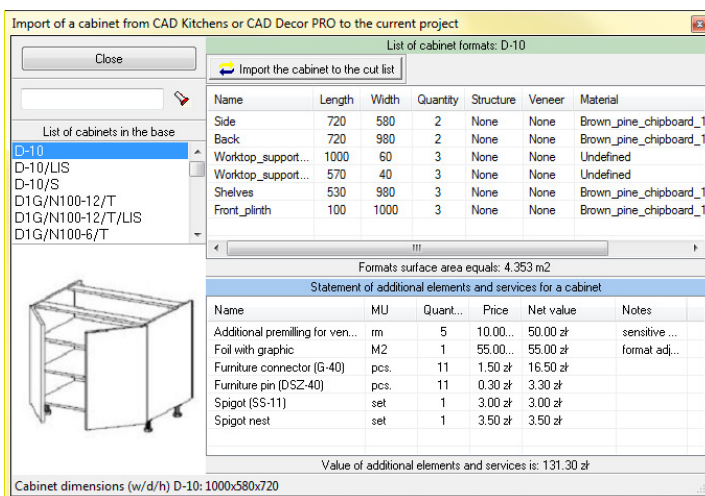

Fig. 109 – 'Import of a cabinet from CAD Kitchens or CAD Decor PRO to the current project' window
- select the **'Import single cabinet'** button in the right function pane in the main window; (the **'Import of a cabinet...'** window will open (Fig. 109), in which you can send component formats to the cut list);
To do it, select the **'Cabinet Editor'**  icon to open the editor window during your work in CAD Kitchens or CAD Decor PRO (Fig. 109) and choose the **'User Cabinet Editor'**.